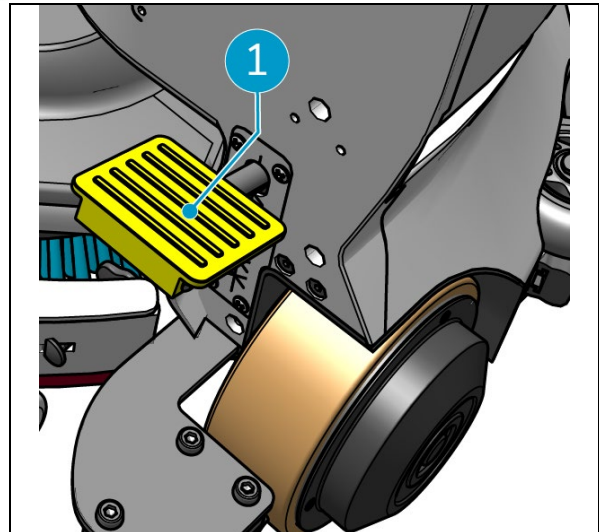

Figure 46
5. Step on the pedal (Figure 46, pos. 1) at the bottom of the main unit to detach it from the i-mop XL.